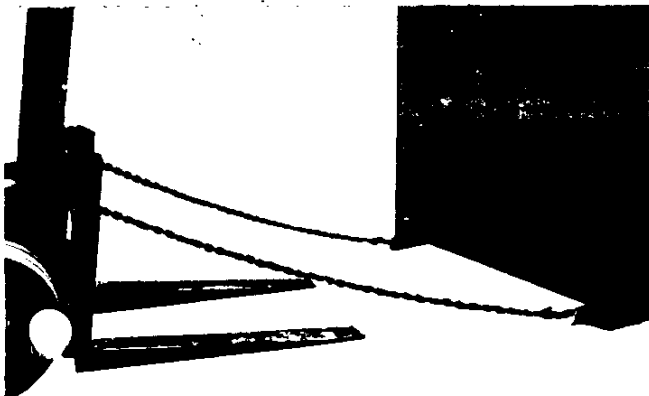

FIGURE 2. ATTACHMENT OF CHAINS FOR TOWING
- Attach a chain with a rating ample for safe handling of the switchgear to the towing eyes at the end of each shipping base, and secure to the towing equipment. Figure 2 illustrates the proper method of chain attachment.